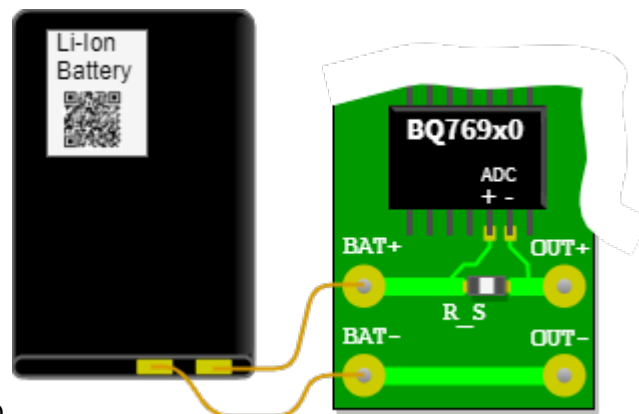

Fig. 24: Sketch of the setup
- The battery monitor BQ769x0 measures the charge and discharge currents of a lithium-ion battery by means of the voltage across a measuring resistor (shunt). In figure 24 the analog-to-digital converter (ADC) of this chip is connected to the shunt R_S via the circuit board. Through the shunt the discharge current flows from the battery connection $BAT+$ to $OUT+$ and via $OUT-$ back to $BAT-$. The shunt shall be designed so that the bipolar measurement signals have a voltage level in the range of -0.20 V to $+0.20\text{ V}$. The analog-to-digital converter has a resolution of $15\mu\text{V}$. The currents can be used to count the charge in the battery to determine the state of charge (SOC).